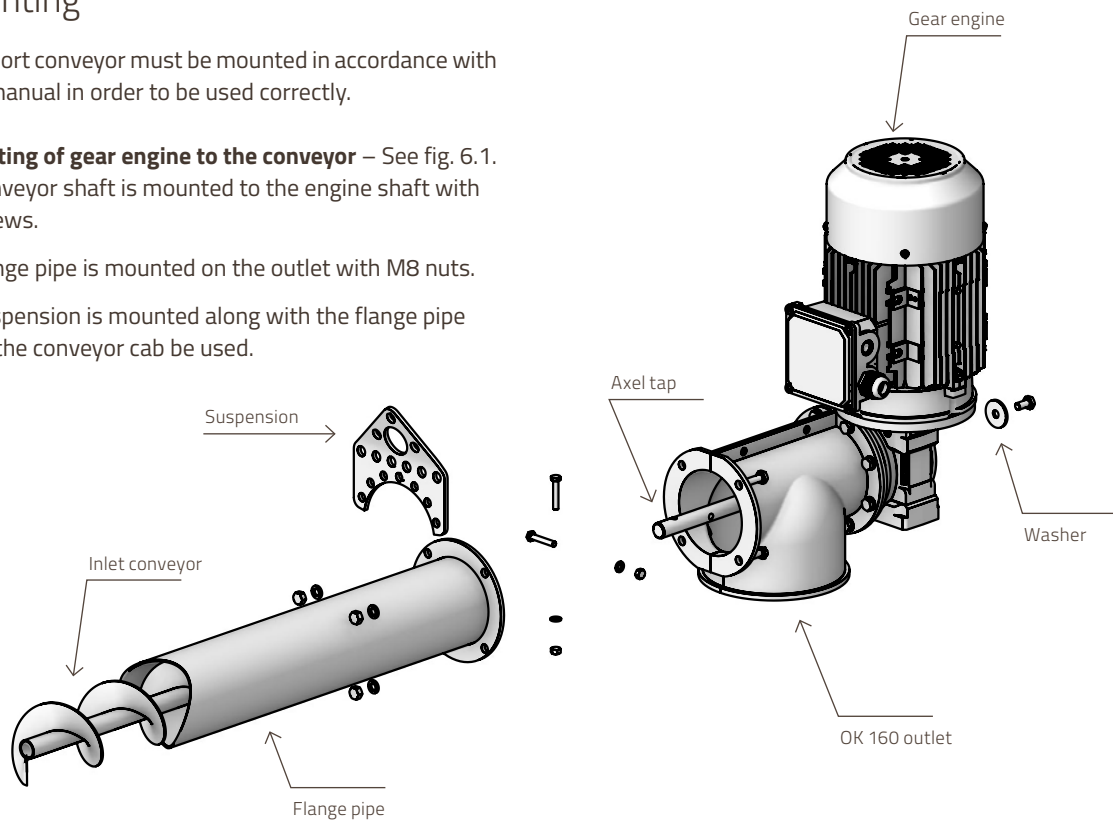

Fig. 6.1.
6.1. Mounting of gear engine to the conveyor – See fig. 6.1.